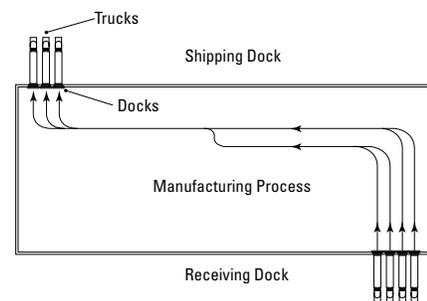

Fig. 2
- Separated, with shipping and receiving at different locations (Fig. 2).